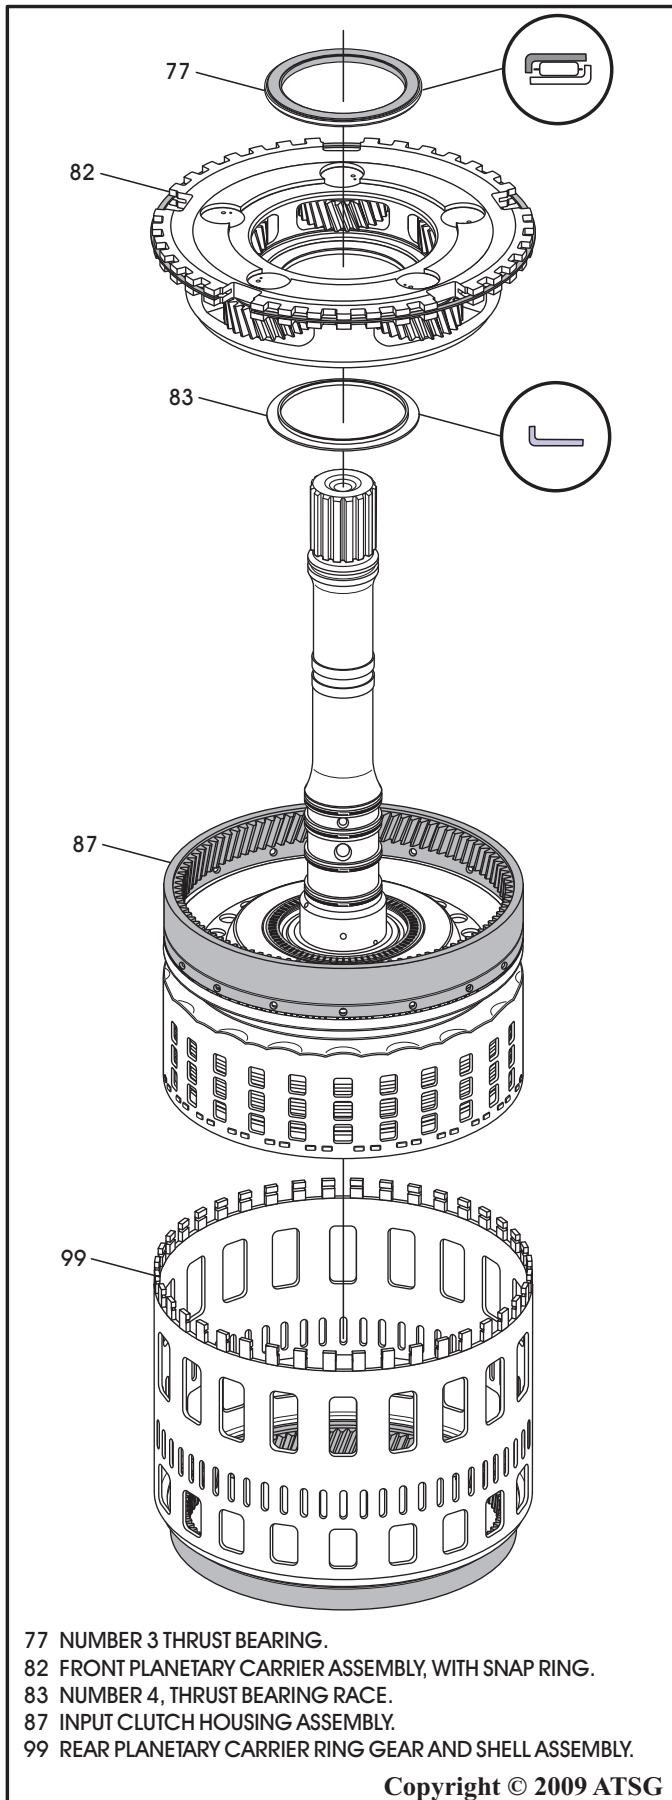

Figure 104
22. Set rear planetary ring gear and shell assembly on a flat work surface, as shown in Figure 104.
23. Install pre-assembled input housing assembly into rear planetary ring gear and shell assembly as shown in Figure 104.
24. Ensure that thrust bearings are still in place and install the completed front planetary carrier assembly into the rear planetary ring gear and shell assembly, as shown in Figure 104.